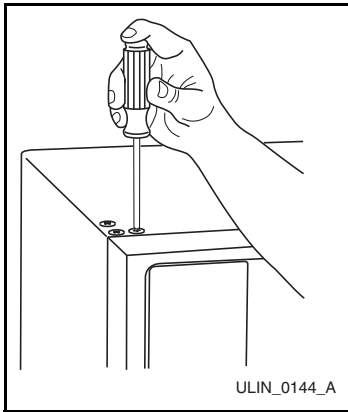

Figure 16
8. Remove plastic hole plug (**Figure 16**) from door handle and relocate on opposite side.